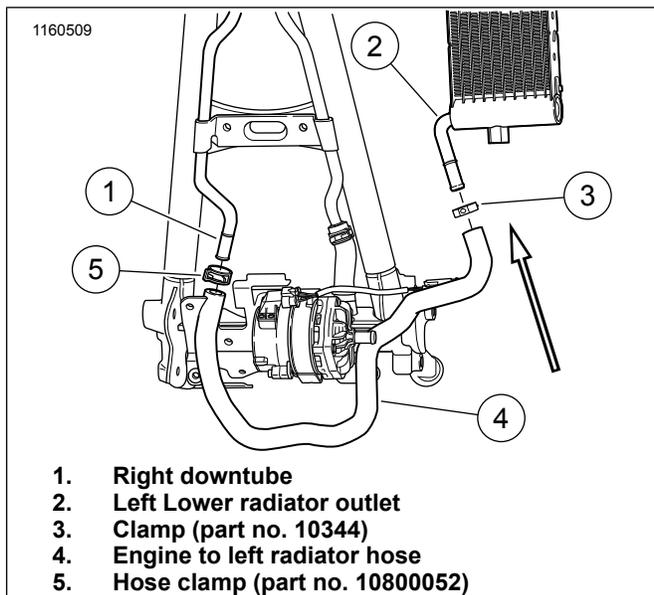
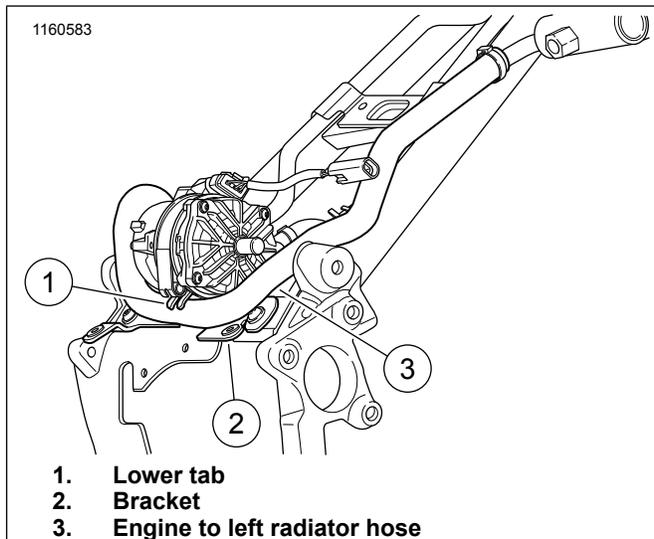

Figure 11. Engine to Left Radiator Hose
Figure 12. Positioning of Engine to Left Radiator Hose
- b. See Figure 11. Position hose clamp (3) on left lower radiator outlet.
- d. Position hose clamp (5) on right downtube (1).
- f. See Figure 12. Position engine to left radiator hose (3) to have the hose position between the lower tab (1) and bracket (2).
- g. See Figure 11. Using the clamp tool, locate the clamp (5) on the engine to left radiator hose. Position clamp about 6.4 mm (0.25 in) from the end to hose.